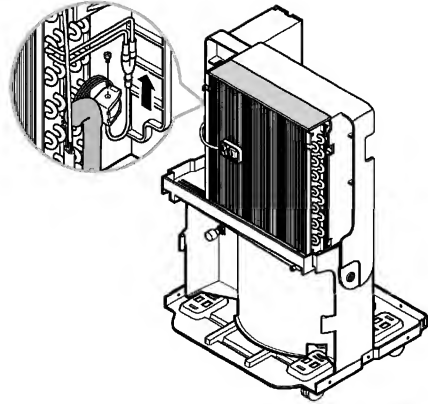

Figure 19
2. Remove the screw that fastens the COIL ASSEMBLY, SOLENOID. (See Figure 19)